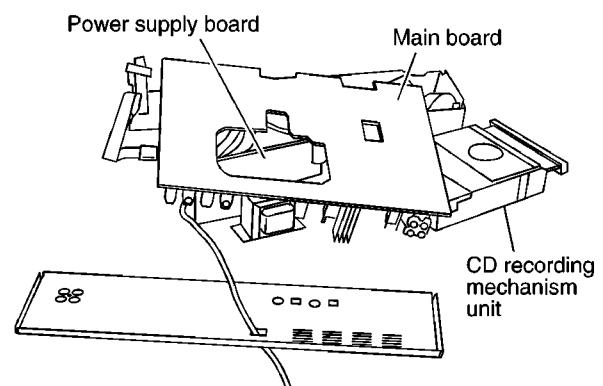

Fig.4
3. Connect the CD recording mechanism unit to main board. (Shown in Fig.4.)